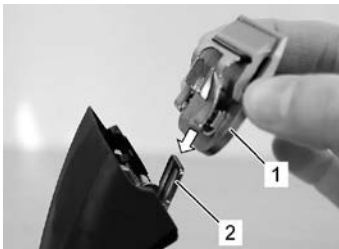

Fig. 14
6. Fit the favoured clipperhead to the blade hinge and fold it on to the switched-on clipper by light pressure. (fig. 14, 15, 16).